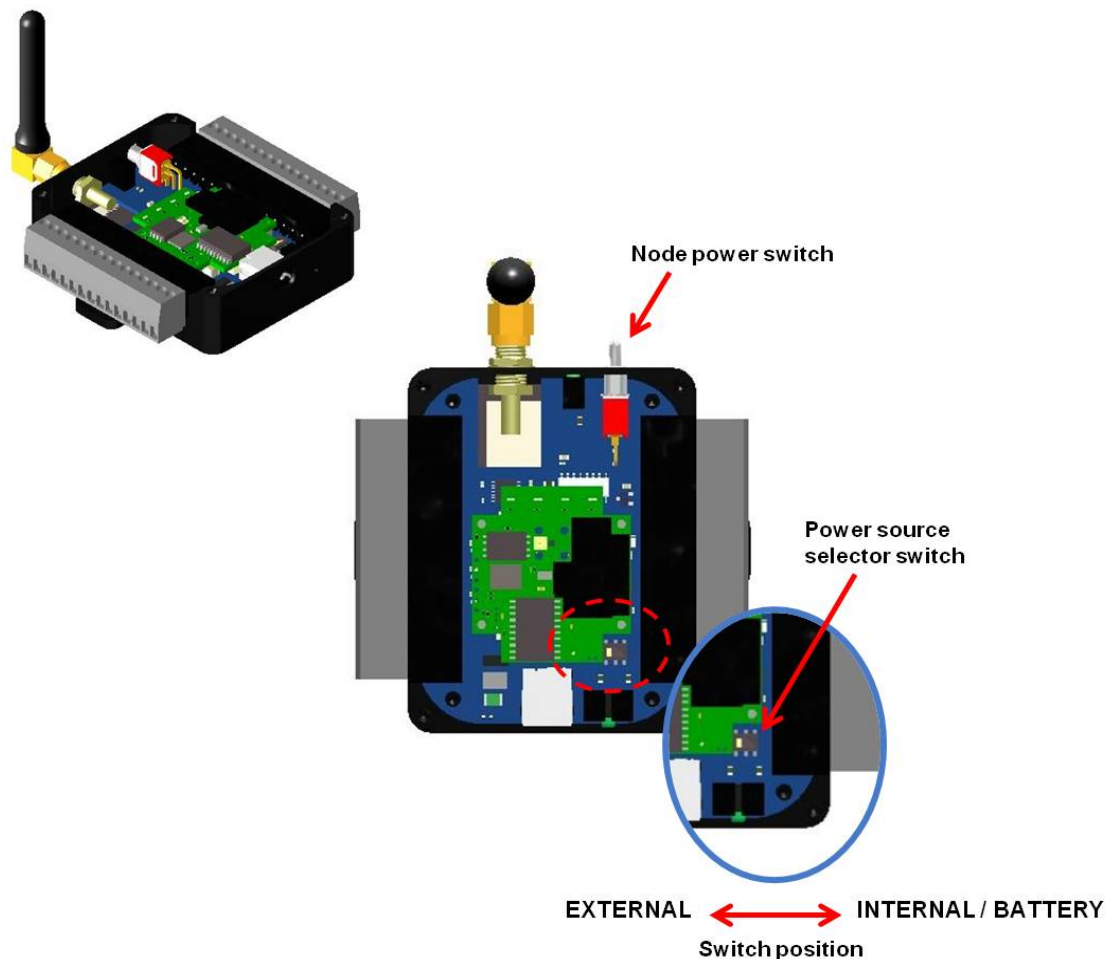

Figure 53 - Power Source Selection
3. Use a small flat-head screwdriver to push the recessed switch fully to the desired position, as indicated in Figure 53 - Power Source Selection. The figure shows the node configured for an external power source.